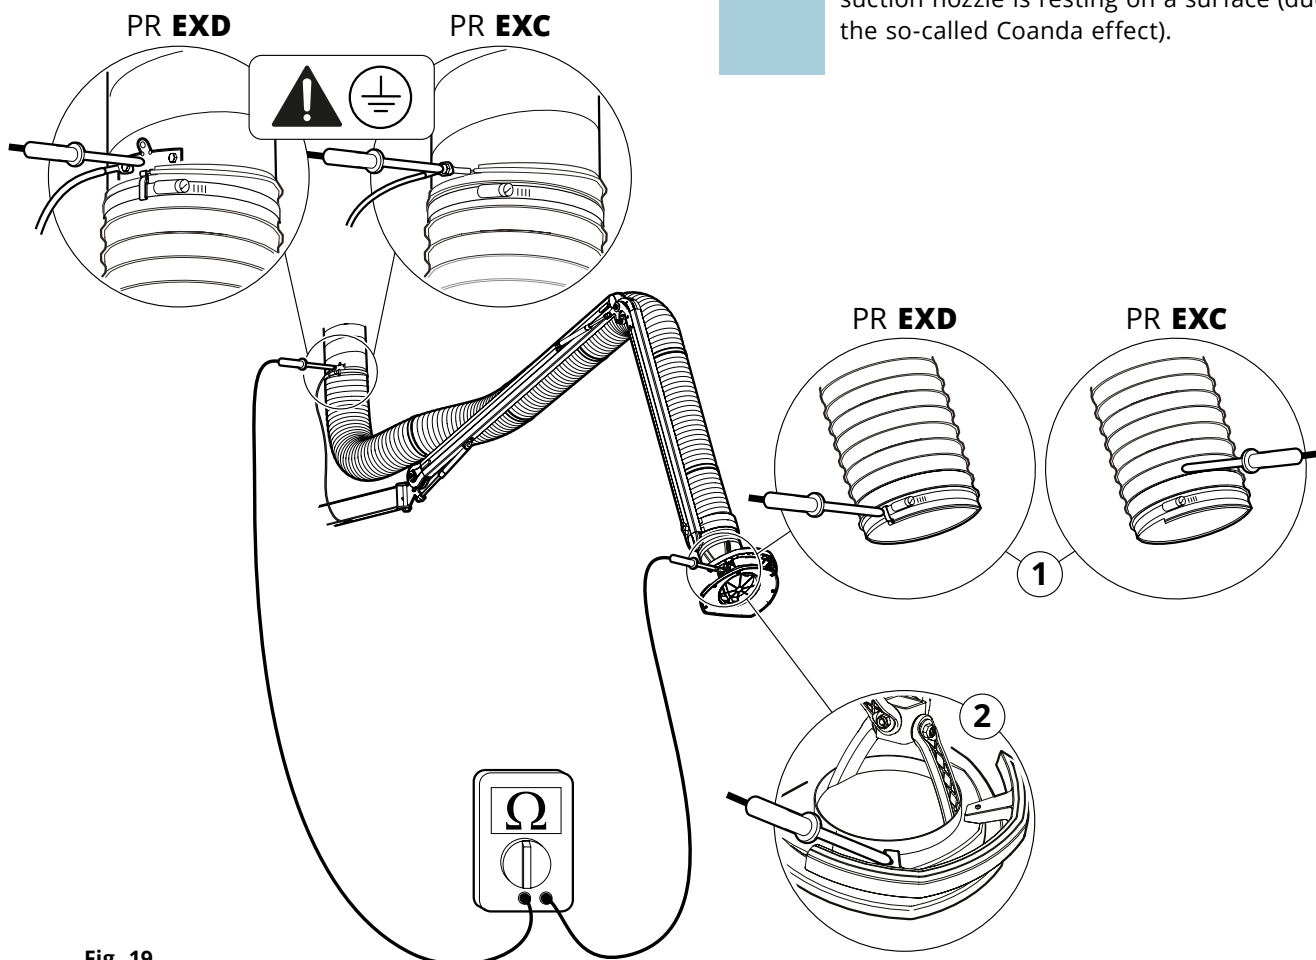

Fig. 19
3. Check the resistance of the hose with a calibrated ohmmeter. See 1, **Fig. 19**. The resistance between the measuring points (earth plane/hose end) must be less than 1 MΩ.
4. Check the resistance of the extraction arm with a calibrated ohmmeter. See 2, **Fig. 19**. The resistance between the measuring points (earth plane/hood) must be less than 1 MΩ.